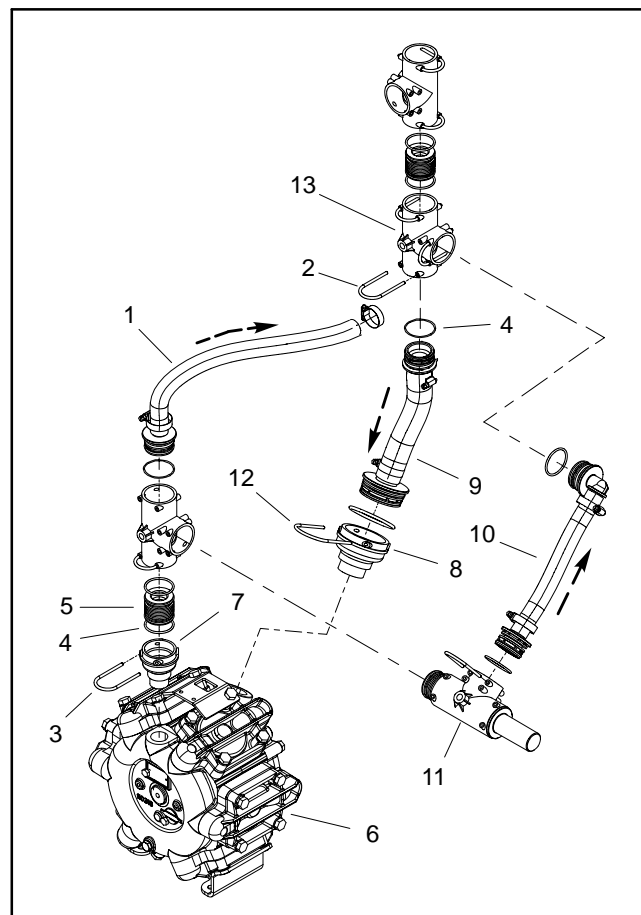
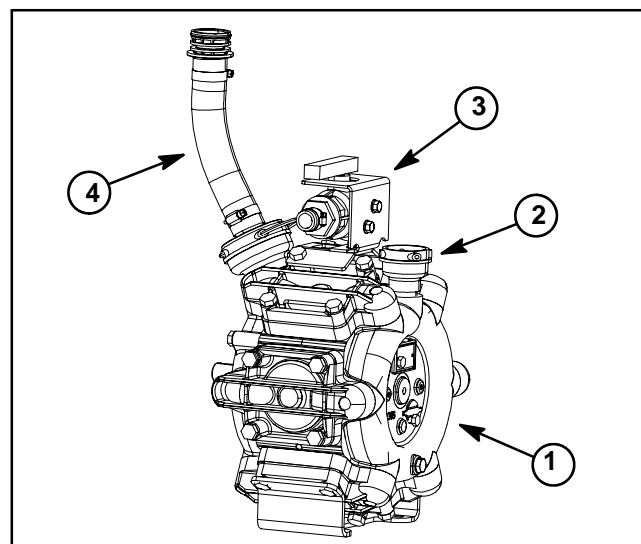

Figure 2
Figure 3
2. Loosen hose clamps that secure hoses to fittings in agitation ball valve (item 9). Disconnect hoses from ball valve and position hoses away from pump.
3. To allow removal of the pump shaft guard (item 10), loosen, but do not remove, two (2) flange head screws (item 12) and flange nuts (item 13) that secure control manifold/motor assembly to motor mount plate. Remove guard from machine.
4. Disconnect hoses as follows (Fig. 2):
A. Remove fork (item 3 in Fig. 2) from supply pump fitting (item 7 in Fig. 2). Lift connector (item 5 in Fig. 2) from supply pump fitting.
B. Remove fork (item 2 in Fig. 2) that secures upper end of suction hose (item 9 in Fig. 2) to tee fitting (item 13 in Fig. 2). Carefully pull upper end of suction hose from tee fitting.
5. Remove two (2) set screws (item 15) that secure coupler to pump shaft.
6. Remove four (4) flange head screws (item 21) and flange nuts (item 22) that secure spray pump to pump bracket.
7. Slide pump until shaft is removed from coupler. Locate and retrieve woodruff key (item 16) from pump shaft.
8. Remove pump assembly (Fig. 3) from machine.
9. If needed, remove pump fitting (supply) from pump outlet (Fig. 2).
10. If needed, remove suction hose and pump fitting (suction) from pump inlet (Fig. 2).
13. Clean threads of set screws (item 15) and coupler that is still attached to pump motor shaft.
2. If suction hose was removed from pump fitting (suction), lubricate and install new O-ring to fitting. Install suction hose assembly and secure assembly to pump fitting with fork (Fig. 2).
5. Place pump assembly (Fig. 3) onto pump bracket. Align woodruff key in pump shaft with slot in coupler and slide pump shaft into coupler.
6. Install and finger tighten four (4) flange head screws (item 21) and flange nuts (item 22) to attach motor assembly to mount bracket. Do not fully tighten fasteners at this time.
9. Apply Loctite #242 (or equivalent) to threads of coupler set screws (item 15). Install and tighten set screws into coupler to secure coupler to pump shaft.
11. Connect hoses as follows (Fig. 2):
A. Lubricate and install new O-ring onto connector (item 5 in Fig. 2). Carefully insert connector into supply pump fitting (item 7 in Fig. 2) taking care to not damage O-ring. Install fork (item 3 in Fig. 2) to retain connection.
B. Lubricate and install new O-ring onto upper fitting of suction hose (item 9 in Fig. 2). Carefully insert suction hose fitting into tee fitting (item 13 in Fig. 2) taking care to not damage O-ring. Install fork (item 2 in Fig. 2) to retain connection.
12. Connect agitation hoses to ball valve (item 9) and secure hoses with hose clamps.